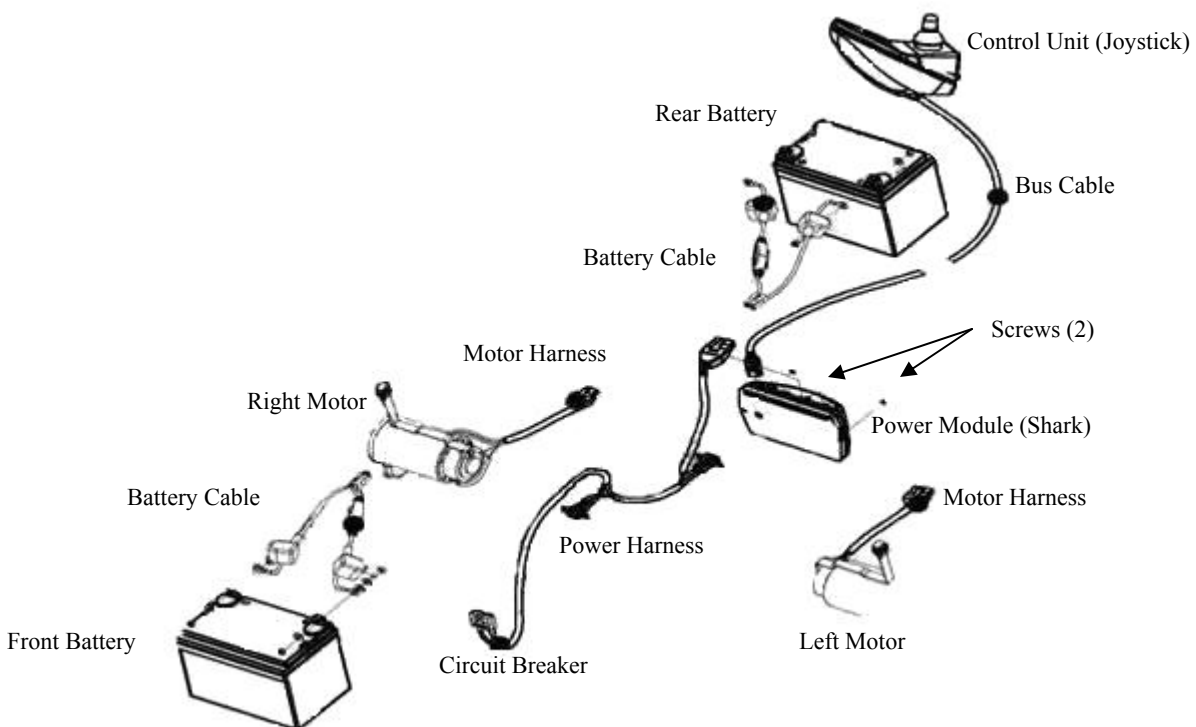

Figure 10. Electrical System
7. Remove the power module from the battery box, by removing the two screws securing it. See figure 10.